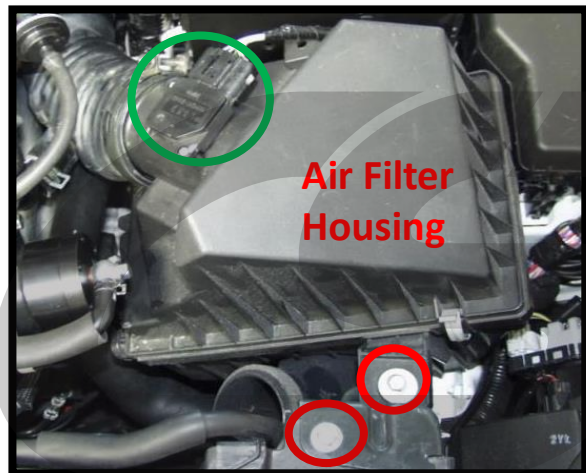

Figure 1c
- d) Unplug the MAF sensor located on the air filter housing (green circle in Figure 1c).
- e) Remove the two 10mm bolts on the air filter housing bracket and remove the bracket (red circles in Figure 1c).